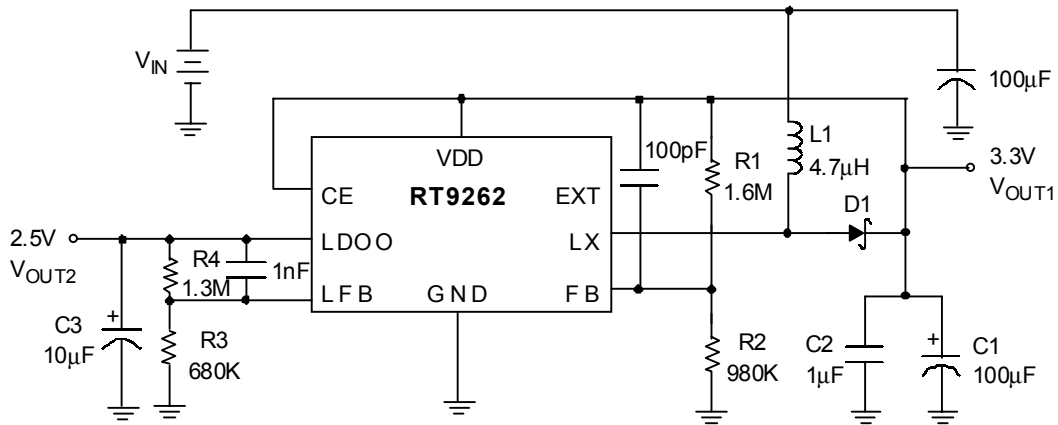
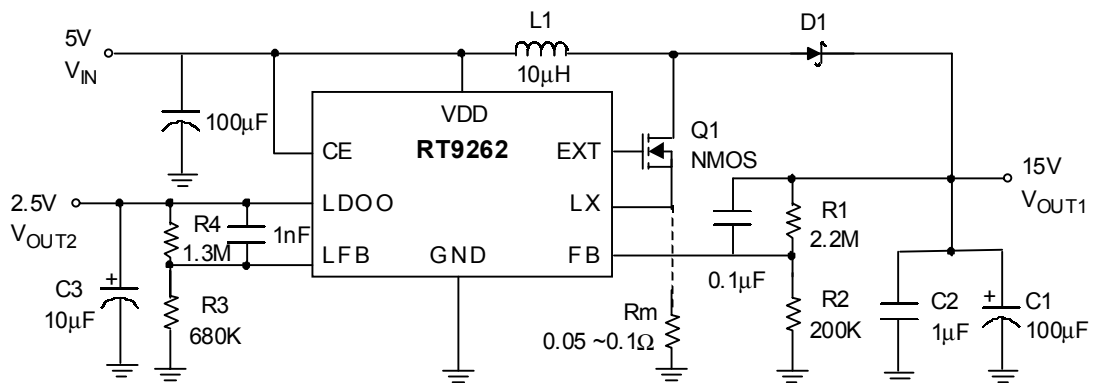

Fig. 1 RT9262 Typical Application for Portable Instruments below 400mA
Fig. 5 High Voltage Application (Rm should be added when IL > 100mA)
Referring to application circuits Fig.1 to Fig.5, the output voltage of the switching regulator (V_{OUT1}) can be set with Eq.1.
Referring to application circuits Fig.1 to Fig.5, The selection of R1, R2, R3, and R4 based on the trade-off between quiescent current consumption and interference immunity is stated below:
- A proper value of feed forward capacitor parallel with R1 (or R4) on Fig.1 to Fig.5 can improve the noise immunity of the feedback loops, especially in an improper layout. An empirical suggestion is around $100pF \sim 1nF$ for feedback resistors of $M\Omega$, and $10nF \sim 0.1\mu F$ for feedback resistors of tens to hundreds $K\Omega$.